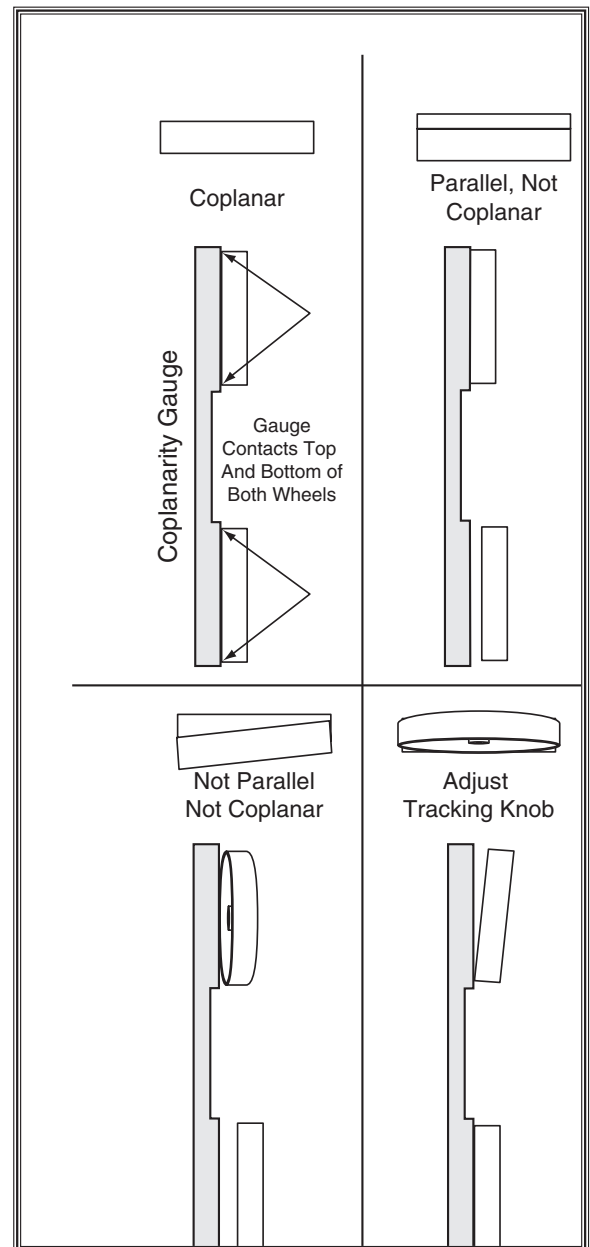

Figure 55. Coplanar diagram.
When wheels are aligned, or coplanar, the bandsaw cuts straighter, with much less vibration, heat, and blade wear because the blade is automatically balanced on the wheel. See **Figure 55** to better understand coplanarity.
2. With the blade on and properly tensioned, hold a straightedge or a self-made "coplanarity gauge" (Figure 55) close to the center of both wheels. Make sure the straightedge or gauge fully extends across the wheels as shown in **Figure 55**.